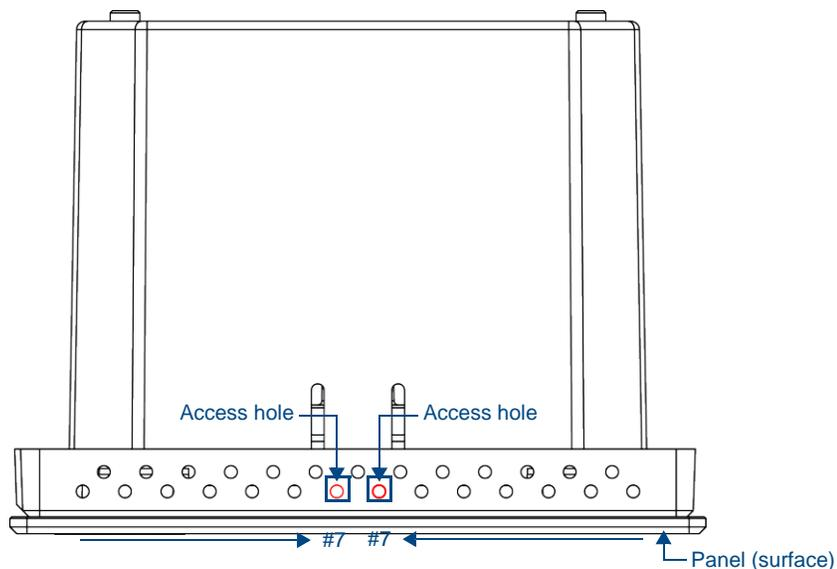

FIG. 48 Top View of the MXD-430 showing access holes in molding
2. On the top of the MXD-430, locate the **seventh** ventilation holes from each edge, on the row closest to the glass (FIG. 48): .
3. With a stout, strong point (a push pin or straightened paper-clip, for example), carefully press straight into the access holes in the center of the molding (FIG. 48) until the snap is disconnected.